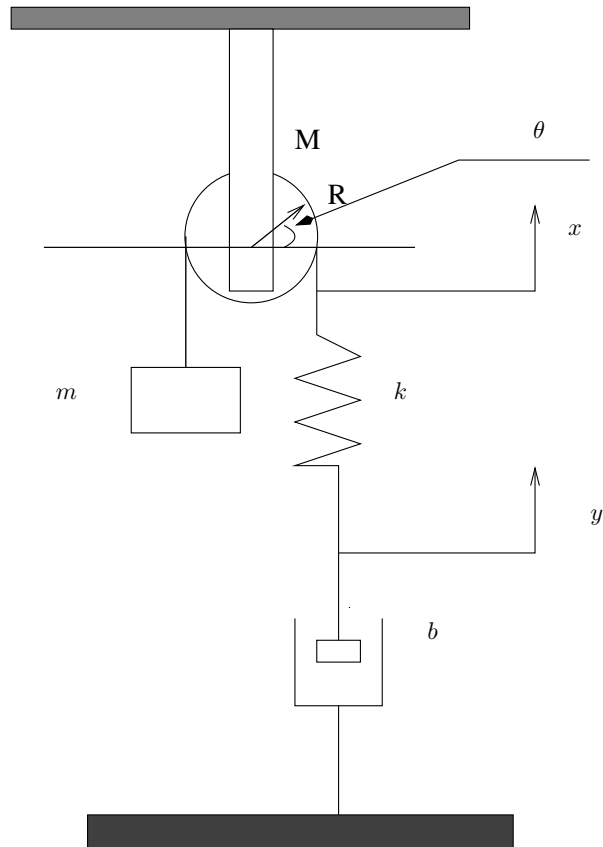

Figure 5: Second order system with pulley
5. Consider the system shown in Figure 5. In this system, the mass  $m = 40$  Kg, the pulley has a radius  $R = 0.5$  m and mass  $M = 20$  Kg. Suppose that  $k = 200$  Nt/m and  $b = 100$  Nt.s/m.